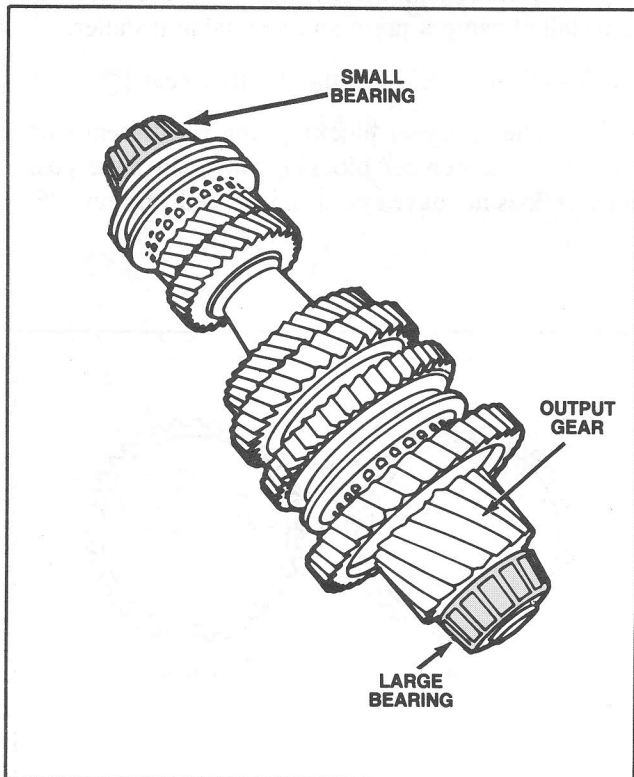

Figure 98 Bearing Location
**CAUTION:** The tapered roller bearings are two different sizes. The larger bearing is installed on the output gear end of the shaft. (Figure 98).